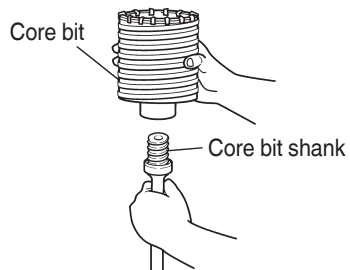

Fig. 15
- (1) Mount the core bit to the core bit shank. (Fig. 15)